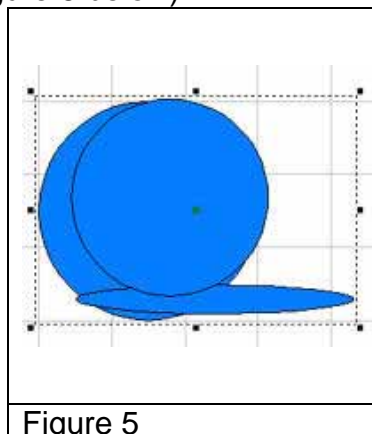
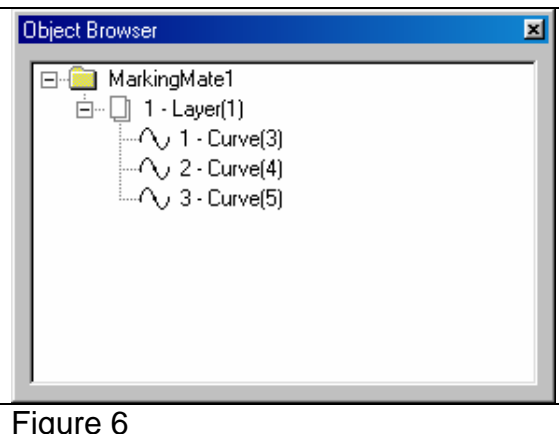

Figure 5
Figure 6
**Step 1:** If want to separate the combined objects, you can use “Break” function. Click “Edit – Break” from Menu Bar. All objects will go back to what they was original (as Figure 5 below), however, they are remain curve (as Figure 6 below).
**Step 1:** Use Ungroup function is able to break up a group object. Click “Edit – Ungroup” from Menu Bar, or click the  button from toolbar, all objects will go back to their original look (as Figure 5 below), and their object type as well (as Figure 6 below).